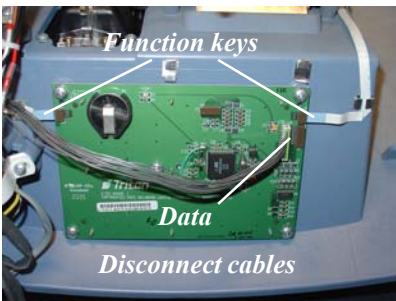

Figure 7. Disconnect cables from SPED.
7. Disconnect the two (2) function keys ribbon cables and the power/data cable from the SPED board shown in Figure 7. Remove the power/data cable.